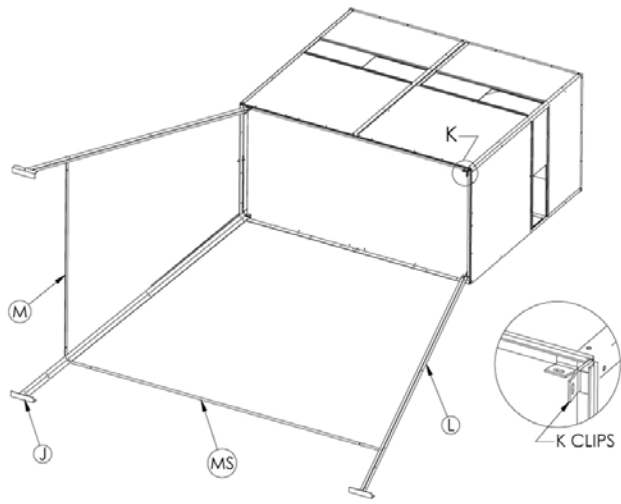
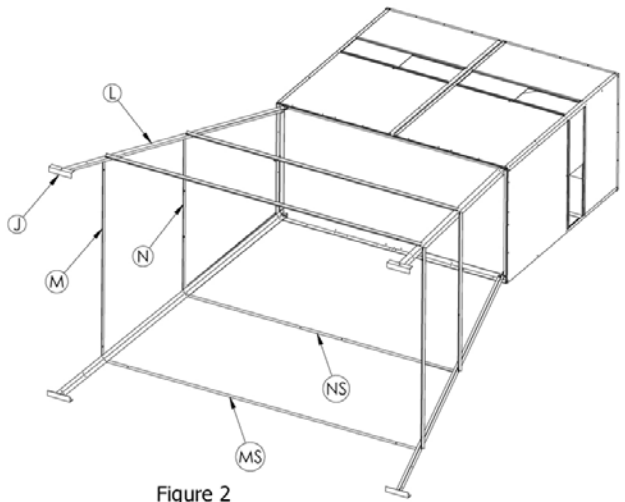
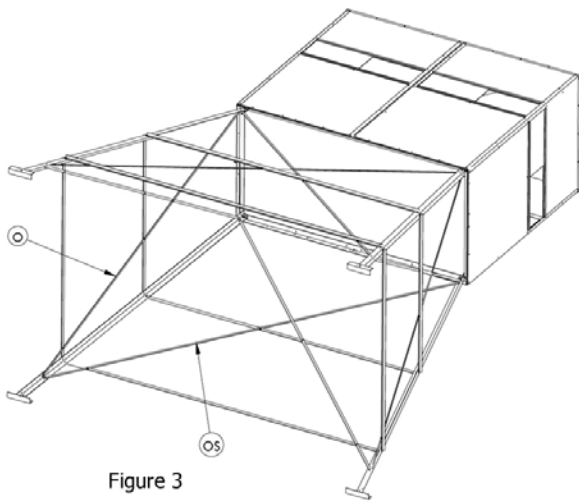

Figure 1
Figure 2
Figure 3
4. Attach the (L) Legs to (K) K-Clips using (M) & (N) Horizontal Bracing as necessary for support. (Fig. 1)
5. Complete the tower by adding all braces as shown. (Fig. 2 & Fig. 3)
6. Attach the (J) Feet as shown. (Fig. 2)
11. Attach the (#1) Extension Legs to the (L) Tower Legs using (#6) Leg Splice. Use the (#2 and #2S) Horizontal Bracing as necessary for support. (Fig. 1 & Fig. 2)
12. Attach the (#3 and #3S) Diagonal Bracing to the interior side of the (#1) Extension Legs & the (L) Tower Legs. (Fig. 3)
13. Attach the (J) Feet as shown. (Fig 3)